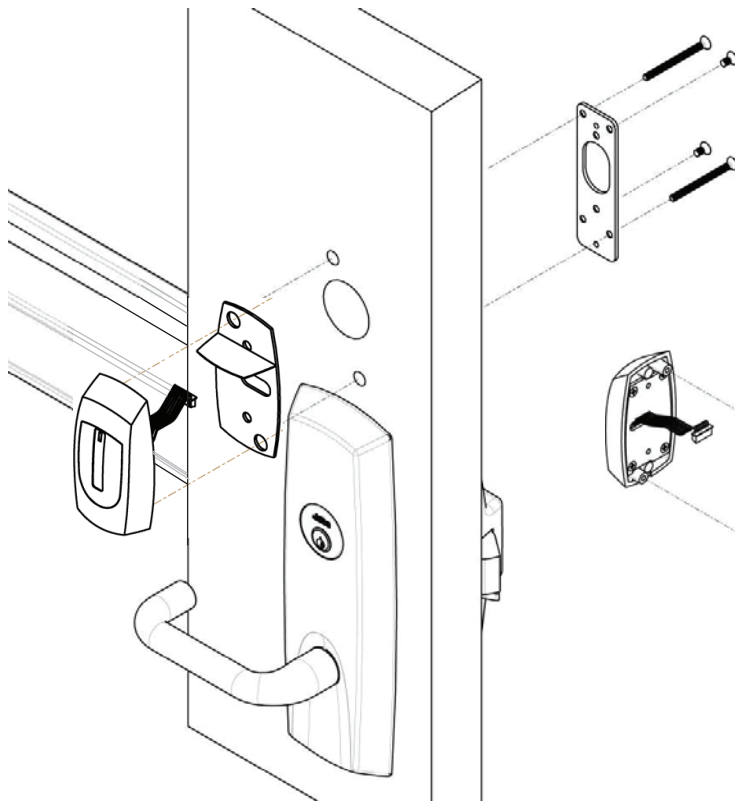

Fig. 6a
- Feed Reader wire harness through door and through hole in mounting plate (Fig. 6a).
- Insert two #8 x 1-3/4" flat head through mounting plate and into escutcheon (Fig. 6a and 6b).